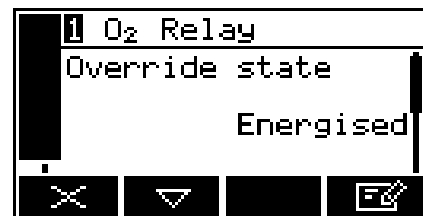

Figure 74 – The relay override state screen
2. Figure 74 shows the relay state (energised or de-energised) that the relay signals outputs will be set to when the override is active. Edit if required.